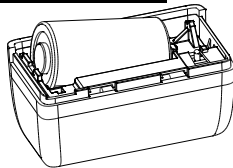

Fig. 4b – Replacing Battery
3. Insert the new battery into the sensor while observing battery polarity (see Figure 4b).
1. Press and hold down the sensor's tamper switch (see Figure 4b).
2. Insert the battery into the sensor while observing battery polarity (see Figure 4b).